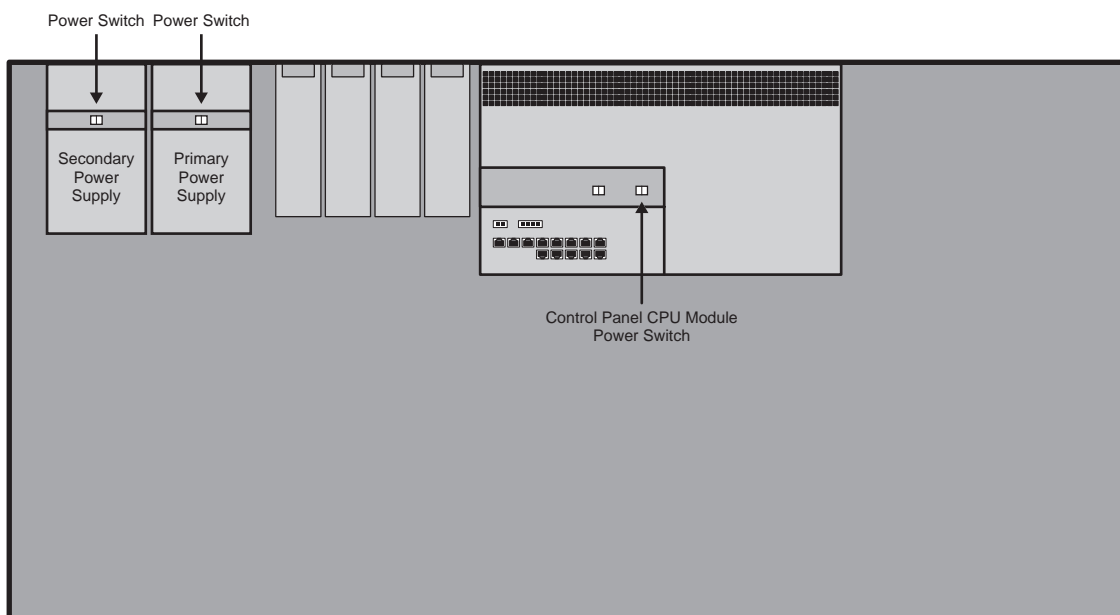

Figure 4.1 Power Switches Inside the Control Panel Tub
2. Toggle the **Primary** and, if installed, **Secondary AC Power** switches for the control panel to **ON**. The power switches are located inside the control panel tub (**Figure 4.1**).
7. Toggle the **Primary** and, if installed, **Secondary AC Power** switches for the control panel to **OFF**. The power switches are located inside the control panel tub (**Figure 4.1**).